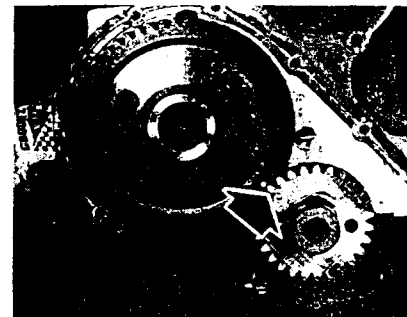

Figure 8-1-36
2. Turn crankshaft and camshaft so that the valve timing marks on the gear teeth will line up, (see Figure 8-1-36) push camshaft into position. Install camshaft thrust plate to block screws and tighten 72-90 inch-pounds (8.2 - 9.1 N·m).